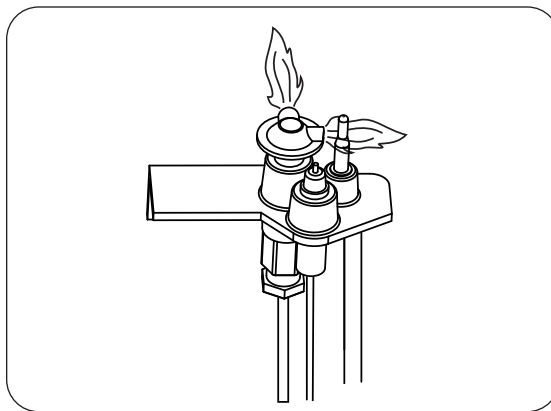

**Fig. 27-1**
1. Locate the OFF/REMOTE slide actuator on the right rear of the burner. Slide the actuator outward to the **OFF** position. See Fig. 27-1.